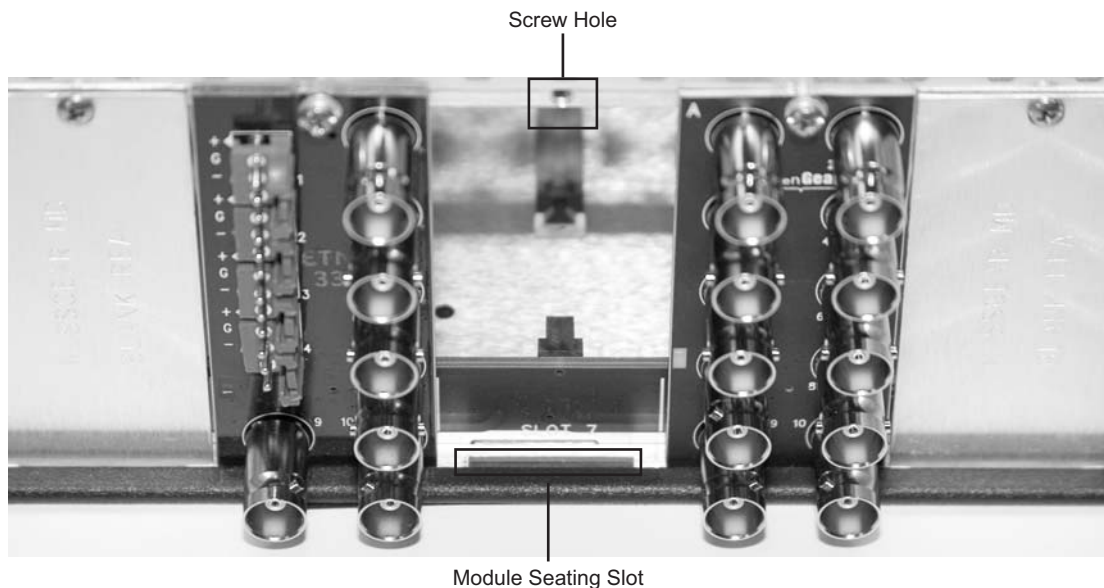

Figure 2.1 Rear Module Installation in a DFR-8300 Series Frame (ADA-8402-B not shown)
3. Install the bottom of the Rear Module in the **Module Seating Slot** at the base of the frame’s back plane. (**Figure 2.1**)